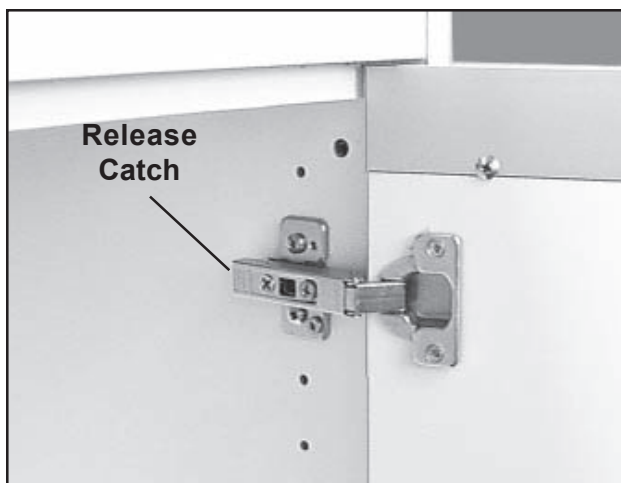

Figure 14. Door Hinge Release Catch
1. Squeeze on the release catches of both hinges (Figure 14), and remove the door from the table. Refer to *Removing a Door* on *Page 16*.
2. Squeeze on the release catches of both hinges (Figure 14), and remove the door from the cabinet. Refer to *Removing a Door on Page 16*.
2. Squeeze on the release catches of both hinges (Figure 14), and remove the door from the cabinet. Refer to *Removing a Door* on *Page 16*.